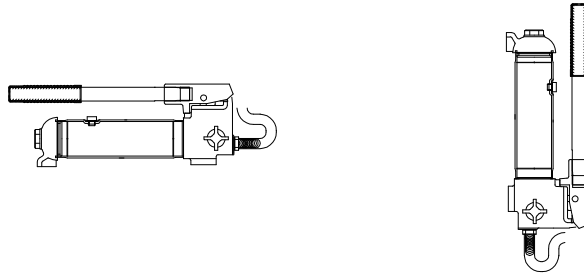

Figure 2 - Horizontal and Vertical Position
**Note:** Pump may be used in horizontal and vertical position as illustrated (See figure 2).